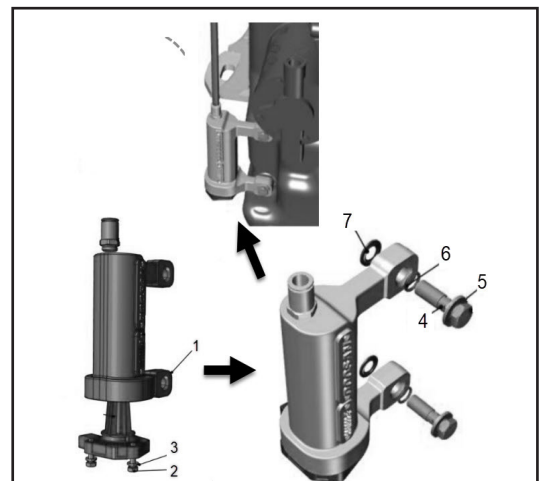

Figure 746
8. Dipstick solution See Figure 746
- Insert O-ring 100x3 (1) into the annular groove of the piston and grease it.